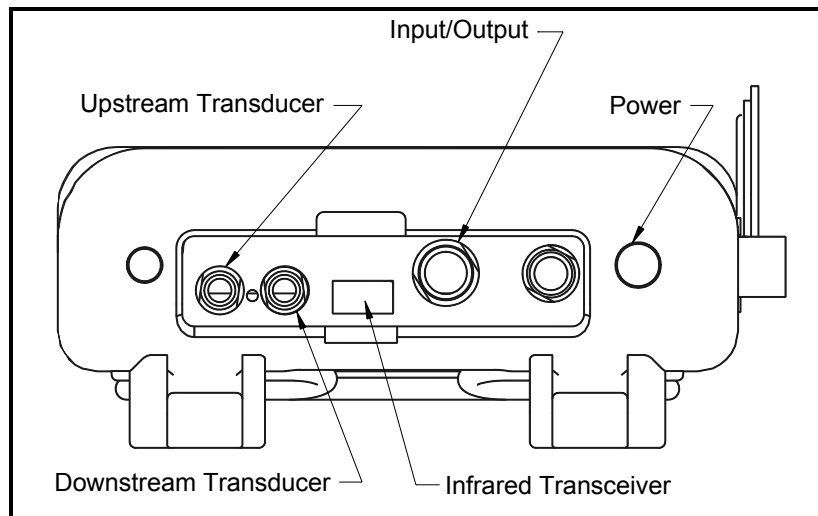

Figure 1-1: Electrical Connection Locations
All electrical connections are made to the top of the PT878 as shown in Figure 1-1 below.
- Regardless of which power option is chosen, you must connect the power cord as shown in Figure 1-1 on the previous page.
- Transducer Connections**      The transducer cables connect to the PT878 with LEMO® coaxial type connectors. Each color-coded cable should have a collar labeled UPSTREAM or DOWNSTREAM. Make transducer cable connections to the top of the flowmeter as shown in Figure 1-1 on the previous page. Because there are various types of transducers and installations, detailed transducer installation is discussed separately in the *Liquid Transducer Installation Guide* (916-055).
- Input/Output Connections**      The PT878 provides one 0/4-20 mA current output and two 4-20 mA analog inputs with switchable 16V supply for loop- powered temperature transmitters. It also supports digital, frequency, and totalizer outputs. Connect the inputs/outputs using a LEMO® multi-pin connector as shown in Figure 1-1 on the previous page. The pin numbers for the connector and the color code for the standard input/output cable are shown in Table 1-1 on the next page.
The PT878 comes equipped with an internal infrared transceiver (shown in Figure 1-1 on page 1-2) that enables communication between the meter and other IR devices, particularly the IR ports or dongles (IR to RS232 adapters) of Windows®-based PCs. Users can send and receive site and log data; they can also program the meter via the optional PanaView™ software interface. The PT878 was designed for use with products that comply with the IrDA protocol.
To charge the batteries, simply plug the AC power module cord into the power jack (shown in Figure 1-1 on page 1-2) and be sure the battery pack is installed. When the PT878 is plugged into line voltage, the internal battery charger automatically charges the batteries, whether the PT878 is ON or OFF. If the PT878 is ON, the Battery icon in the upper right corner of the screen indicates battery status (as shown in Table 1-2 below).